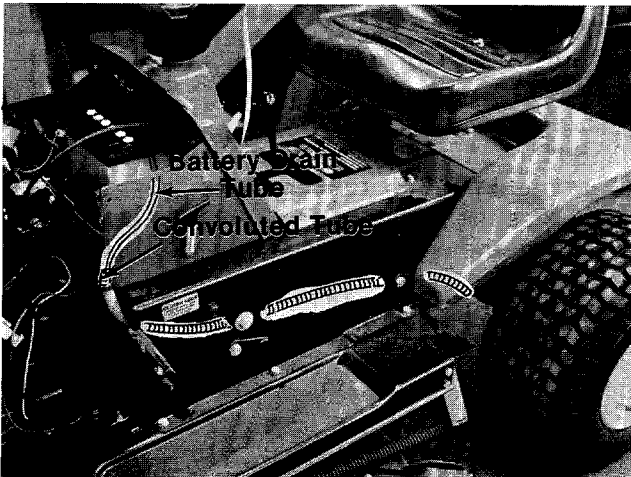

FIGURE 13.
16. Feed the end of the battery drain tube into the convoluted tube already installed in tractor. See figure 13.